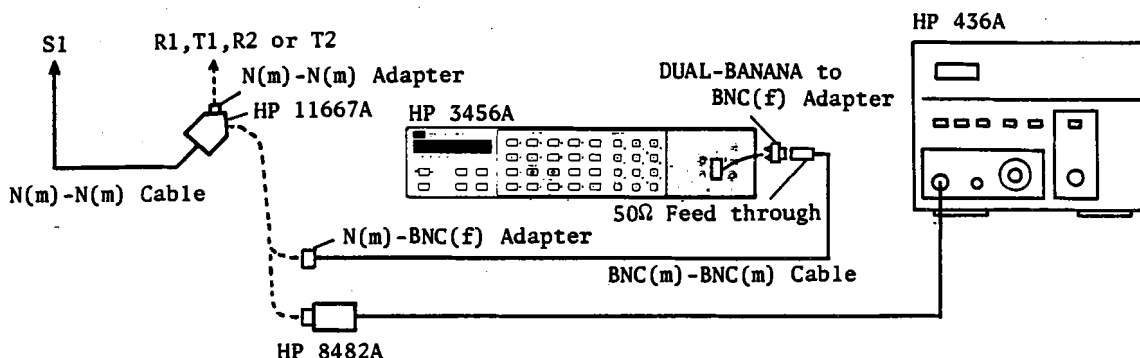

Figure 2-6. Amplitude Measurement Frequency Response Test Setup
2. Configure the test equipment as shown in Figure 2-6. Use the N(m)-N(m) Adapter to connect the Power Splitter to HP 4195A INPUT R1. Connect the 50  $\Omega$  feedthrough at the Digital Voltmeter INPUT. Connect the Voltmeter input cable to the Power Splitter.